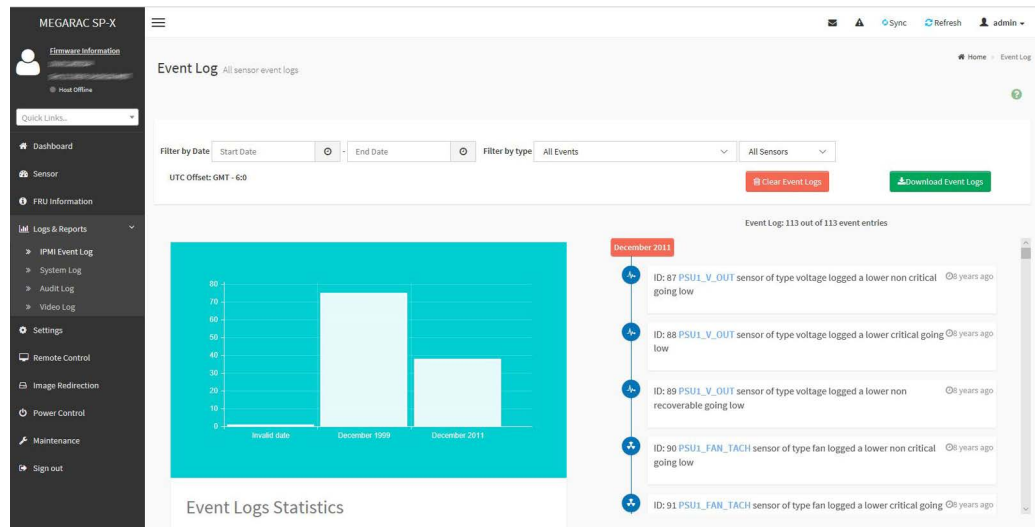

Figure 5.13 Logs & reports
- The Logs & Reports menu enables the user to view logs for IPMI events, system events, audits, and video as shown in Figure 5.13 on page 69.